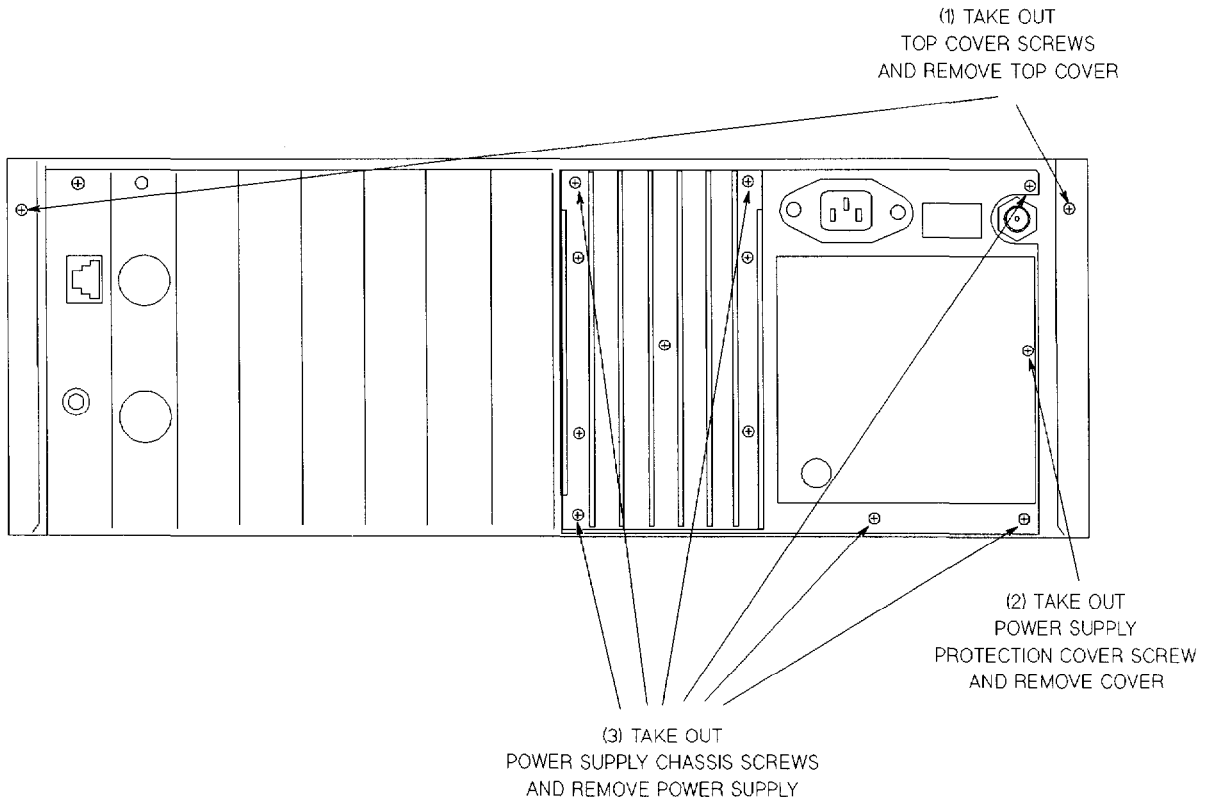

Figure 5-5. Power Supply Removal
- a. **Removal.** The procedure for removing the power supply (8) is as follows:
1. Remove six screws securing power supply to rear of receiver mainframe chassis (Figure 5-5).
2. Remove one screw securing transformer cover (9) to power supply.